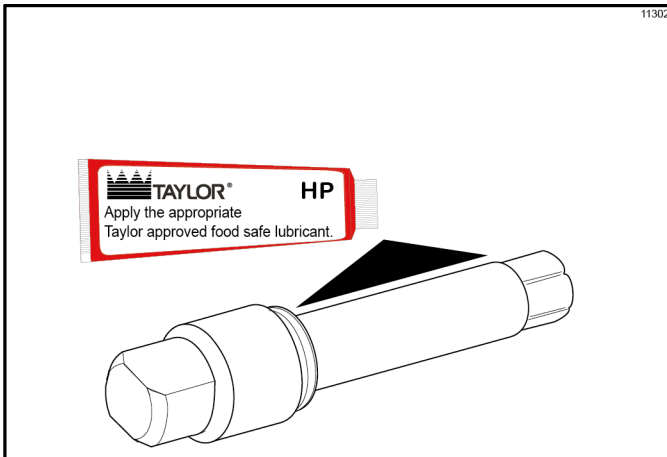

Figure 6-5
4. Apply an even coat of lubricant to the shaft. **Do not** lubricate the hex end. (See Figure 6-5.)